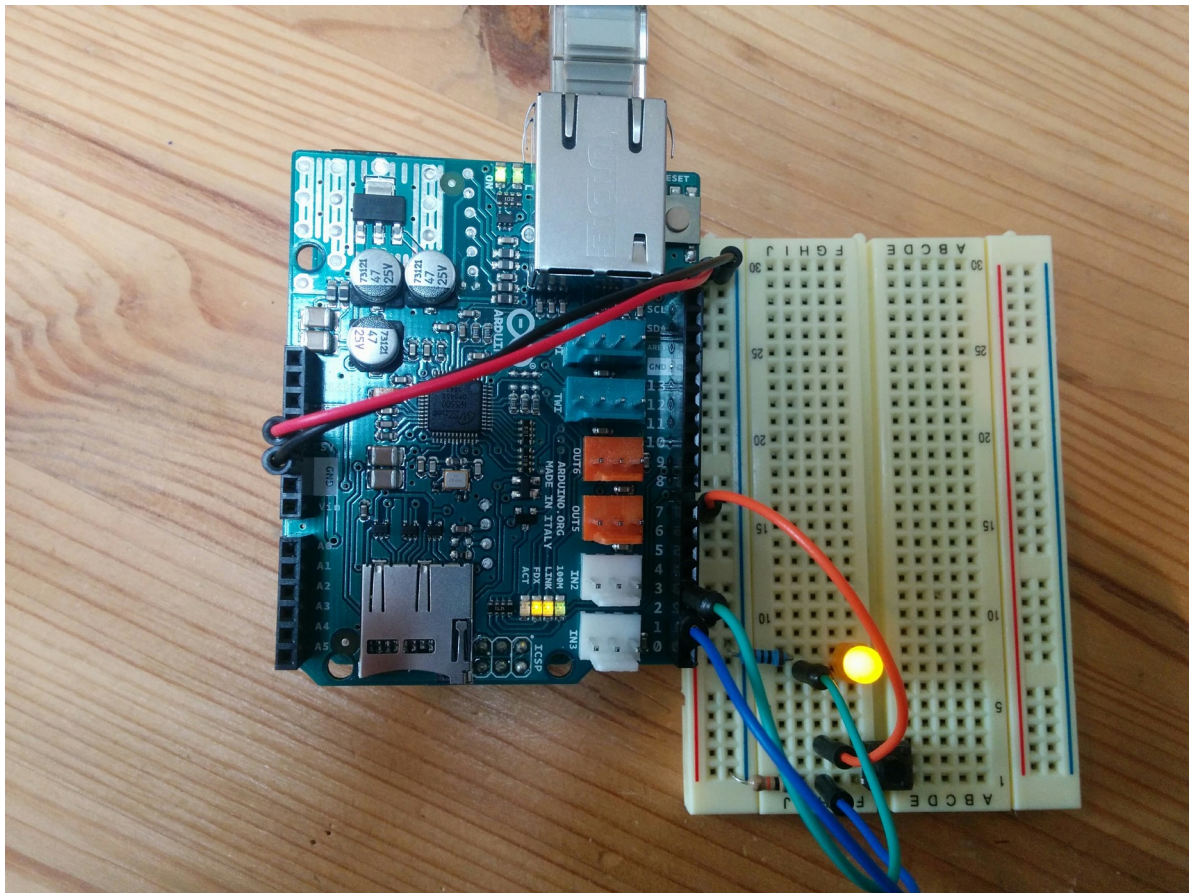

Figure 20 – My IoT light switch!
**Enter this code and test it to make sure everything works.** You should see the led turning on and off with both the physical button and the toggle switch on the web interface. My completed system is shown in Figure 20.